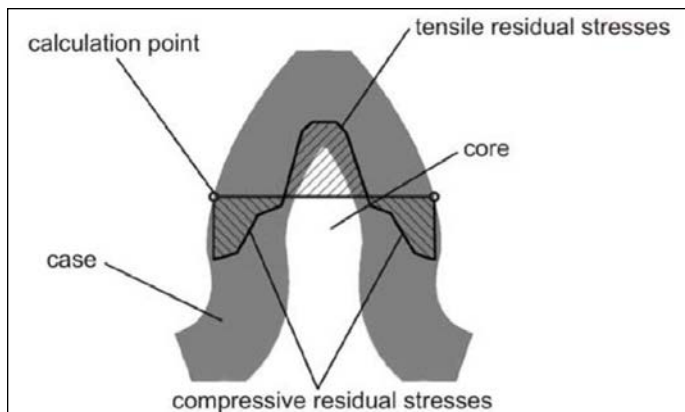

Figure 9 Residual stress distribution in the tooth.
Wirth (Ref. 20) proposes adoption of the (compressive) residual stresses according to Lang (Ref. 11) for the case. Due to the balance of forces in the core, tensile residual stresses have to exist. For the estimation of the residual stress distribution in the core, Wirth made investigations based upon finite element (FE) methods. Using a parabola of the fourth degree, the tensile stresses can be closely approximated by the balance of forces. Figure 9 shows qualitatively in a normal section of the tooth the residual stress distribution. It is a sufficient correlation that the residual stresses in tooth height direction are equal to the residual